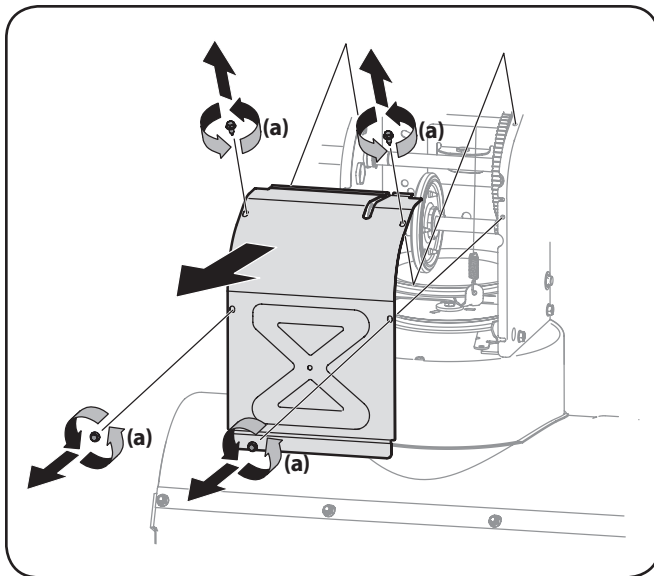

Figure 7-4
3. Remove the frame cover from the underside of the snow thrower by removing the self-tapping screws which secure it. Refer to Figure 7-4 on page 20.
- Remove the frame cover from the underside of the snow thrower by removing the self-tapping screws (a) which secure it. See Figure 7-4.
- Remove the frame cover from the underside of the snow thrower by removing four self-tapping screws which secure it. Refer to Figure 7-4.